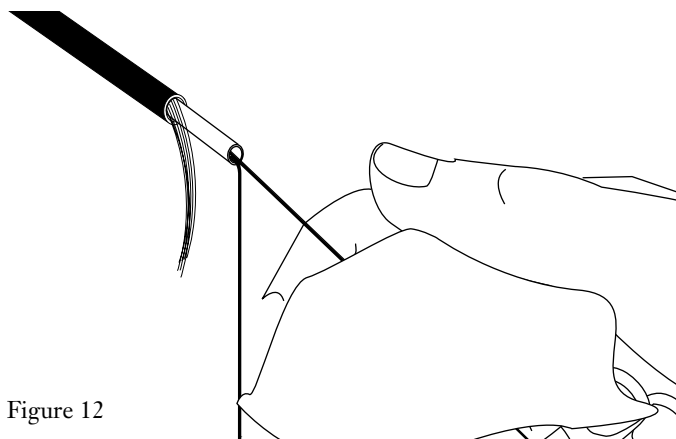

Figure 12
5.4 If the buffer tube is Gel-free, carefully cut out the water block yarns and proceed to step 6.1. If filling compound is present, use a Fiber-Clean wipe to clean the fibers. Use a dry tissue for final cleaning. (Figure 12).